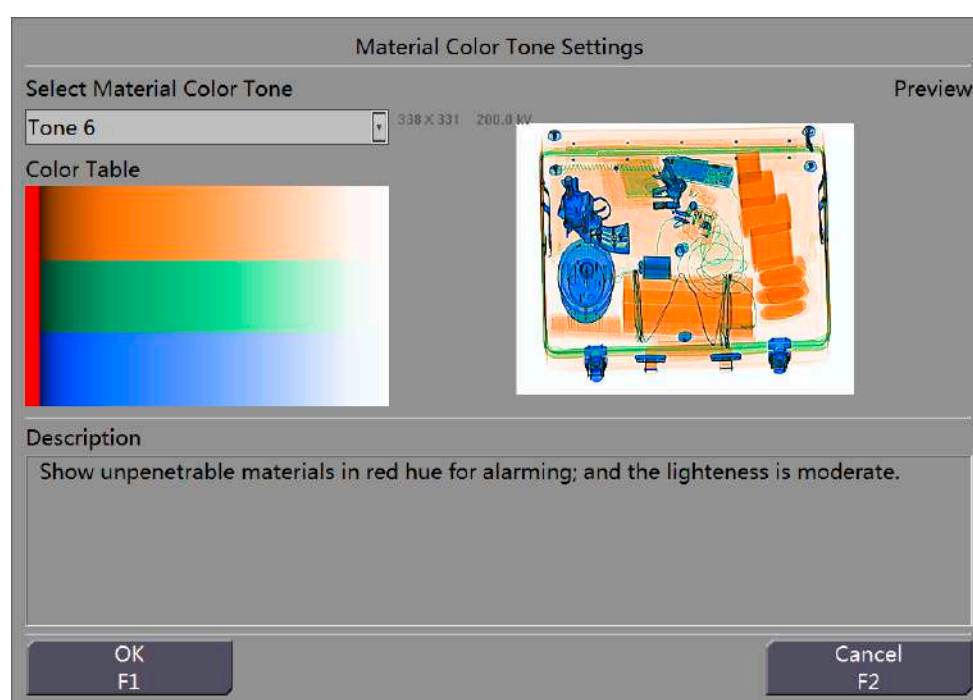

Figure 18-8 Interface of Material Color Tone Settings
Step 1 Select Color Tone Settings or press the Increase key on the operation keyboard to display the Material Color Tone Settings interface, as shown in Figure 18-8. Select one tone from the Select Material Color Tone list box. Preview at the right of the interface displays the image effects of the selected tone, and the Description area below describes the expected effects of the selected tone in details.